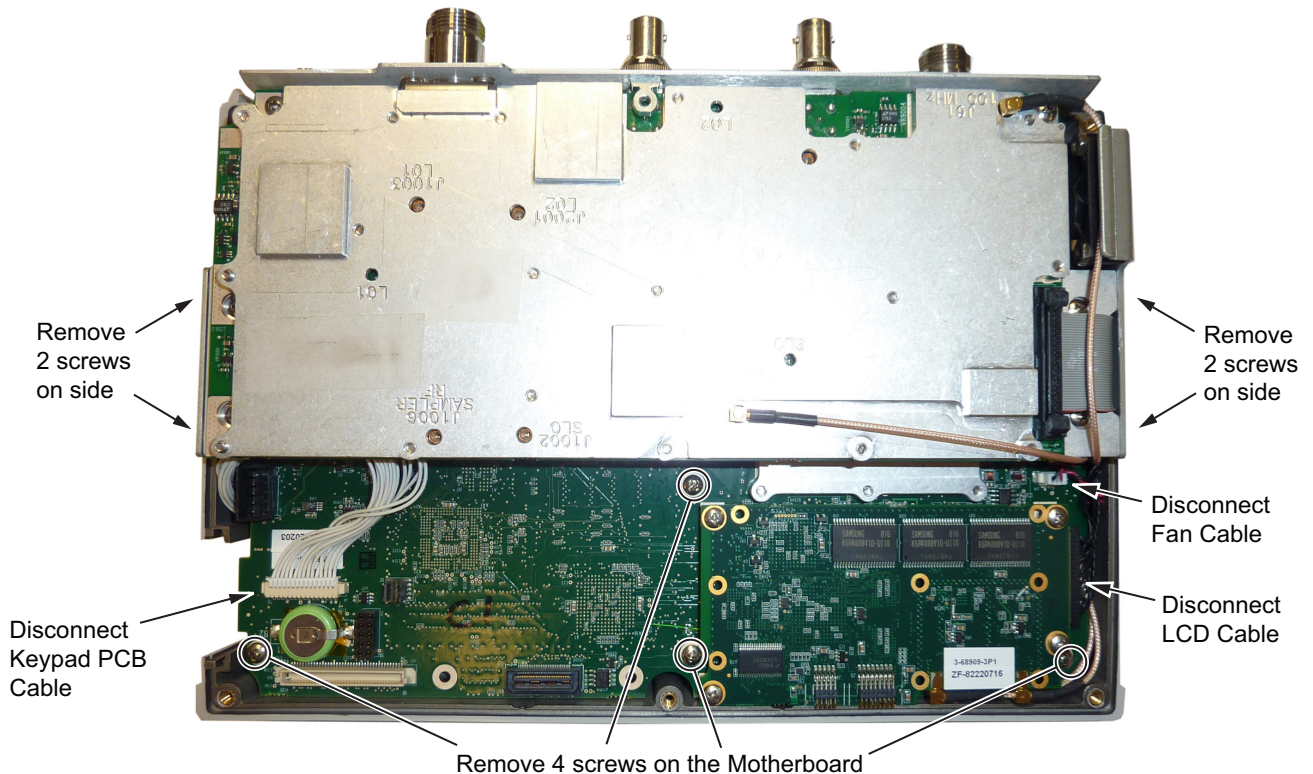

Figure 7-4. Removing the PCB Assembly out of the Case
3. Use a Phillips screwdriver to remove the 8 screws securing the assemblies to the case (Figure 7-4).
Note The MCX cable attached to SPA connector J61 (100 MHz) is shown passing above the SPA PCB ribbon cable. It must be routed under the ribbon cable, not as shown in Figure 7-4.